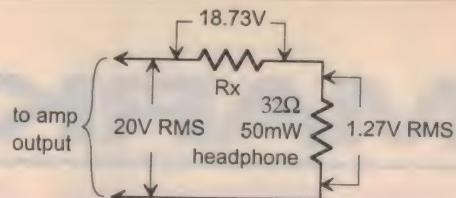

Fig.2: Calculating the series resistance for headphones connected to a power amplifier.
(1) Determine the maximum RMS output voltage of the amplifier by finding the square root of the product of the maximum output power and the speaker resistance for this output power. For example, if the amplifier is rated at 100W into a 4W load, the maximum output voltage is 20V RMS.
(2) Now figure out the RMS voltage to drive the headphones. To do this, find the square root of the product of the power rating and the resistance of the headphones. For 32Ω 50mW headphones, this works out at 1.27V RMS.
(3) Now subtract (2) from (1), to find the voltage drop across the unknown series resistor R_x , which for this example is 18.73V RMS. The ratio of the two resistors (R_x and Rheadphone) is the same as the voltage ratio, so R_x is the resistance of the headphones multiplied by the voltage across R_x divided by the voltage across the headphones. That is, around 470Ω for this example. (See Fig.2.)
(4) The power rating of R_x is the square of the voltage across it, divided by its resistance ($= 350.8/470$), which gives 0.75W. So for this example, use a 470Ω 1W resistor (one per channel).